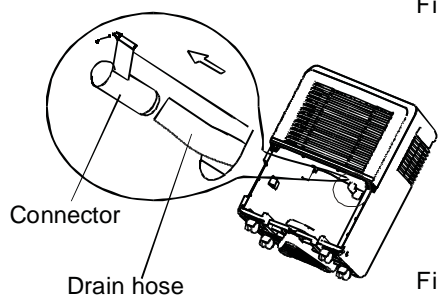

Fig.9
- Remove the plastic cover from the back drain outlet of the unit and remove bucket, then insert the drain hose through the drain outlet of the unit and securely press it onto the connector on the front of the unit. (See Fig.9)